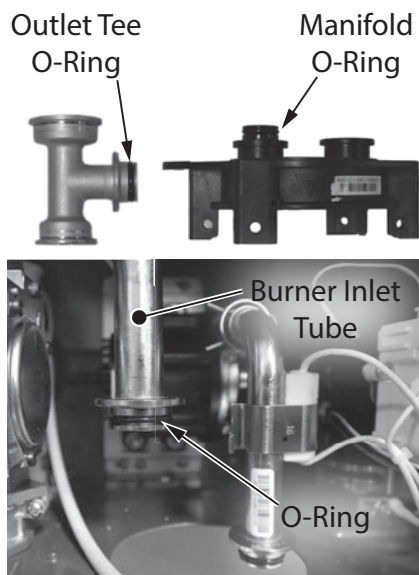

Figure 246 - Replace O-rings
19 If replacing outlet tee, discard old tee and locate the new outlet tee provided in the kit. Install one (1) 15.5 x 2.5, NBR O-ring to outlet tee. Replace one (1) 15.5 x 2.5, EPDM O-ring on the cartridge manifold. Replace one (1) 21.8 x 2.4 O-ring on the burner inlet tube. See Figure 246 on the following page for reference.